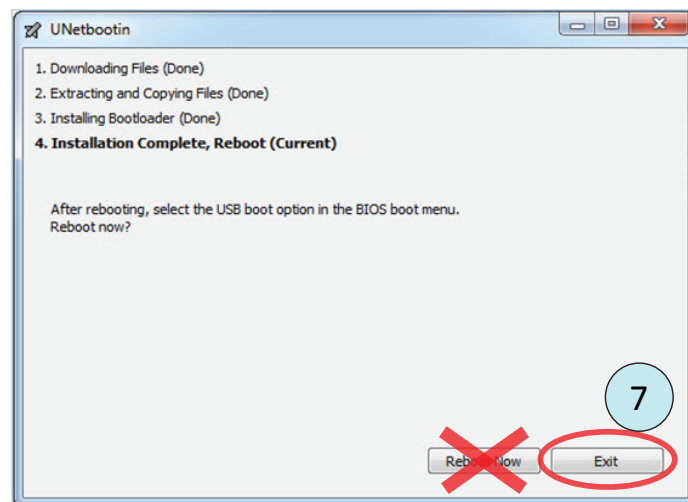

Figure E10. UNETBOOTIN installation complete window.
7) When the copy/burn process is complete, the window in figure E10 will be displayed. **WARNING: DO NOT CLICK THE 'Reboot Now' BUTTON!** Click the *Exit* button or the red X in the upper corner of the window.